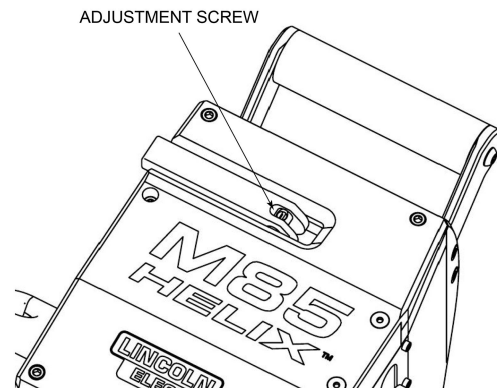

Figure 16 : Adjustment Screw
1. To adjust the clutch latch tension, use a flat-head screwdriver to turn the adjustment screw - see Figure 16 : Adjustment Screw on page A-11 . Turn the adjustment screw counterclockwise to increase the tension, turn clockwise to decrease the tension.